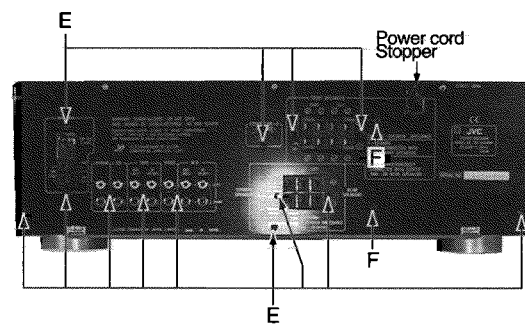

Fig.4
(3) Rear panel remove (See Fig.4)